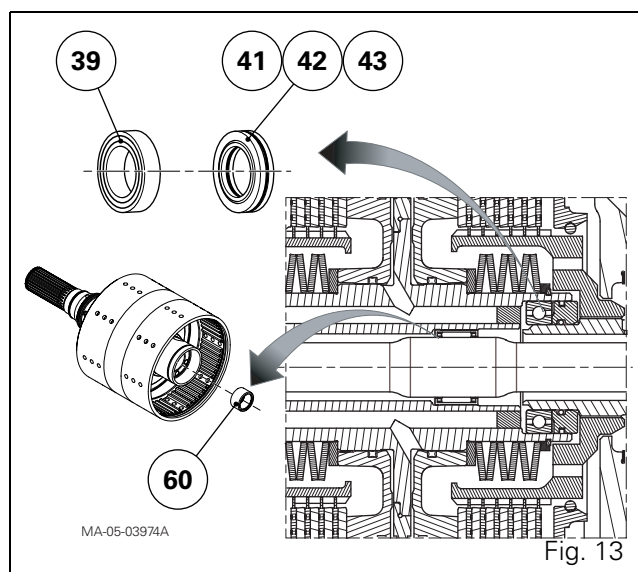

Fig. 13
43. Turn over the clutch unit (14).
44. Remove the circlip (18).
45. Take off the cover plate (40) with the hub (20) and snap ring (19).
46. Remove the discs (16) and thrust plates (15).
47. Repeat steps 40 and 41 with the Belleville washers (17), snap ring (44) and washers (45) and (37).
48. Drive out the piston (30) using a jet of compressed air. Discard the seals with square sections (35) (36).
49. Take off the sealing ring (42) and the bearing (39). Discard the "O" ring (41) and ring (43) (Fig. 13).
50. If necessary, take off the needle bearing (60 Fig. 13).